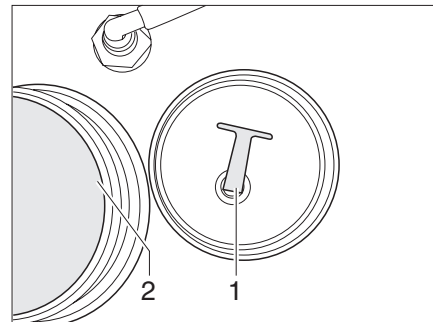

Fig. 177 Stopper
- Screw the stopper (Fig. 177,1) out of the drainage opening (Fig. 177,2).